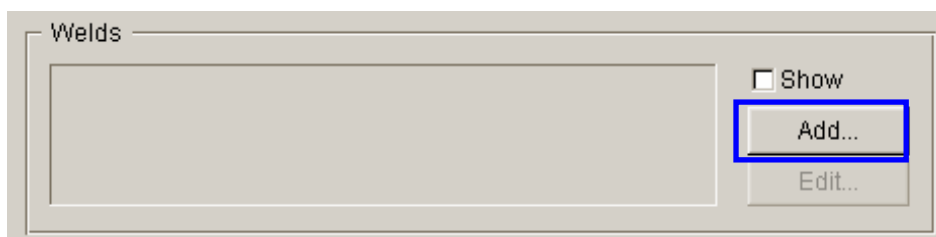
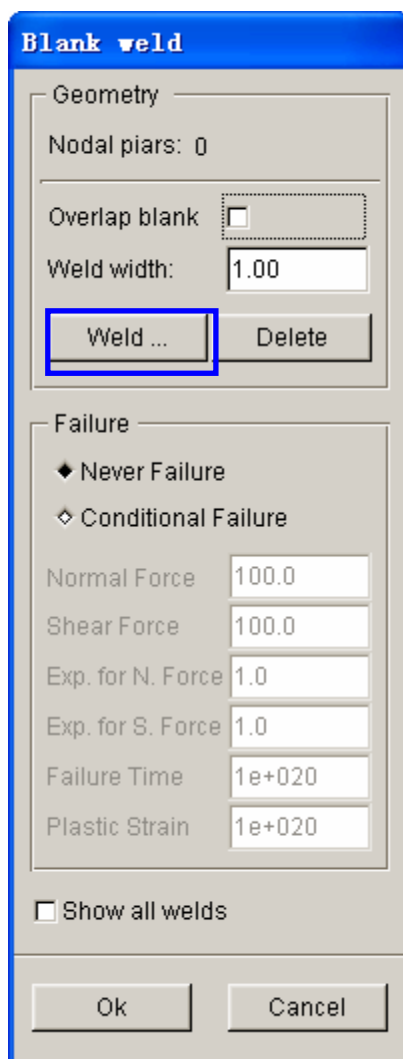

Figure 5.36 Define weld
Figure 5.37 Blank weld dialog box
1. Click **Add...** in the Welds field illustrated in Figure 5.36 to display the BLANK WELD dialog box illustrated in Figure 5.37.